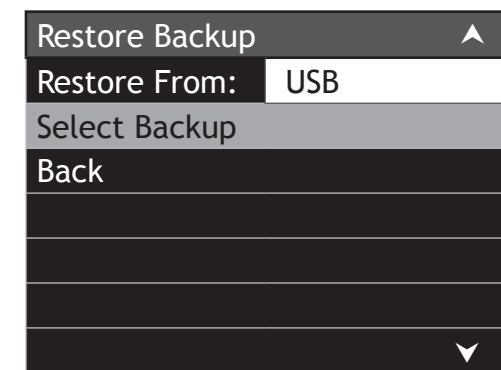

Figure 95
7. Change the “Restore Backup” option from “STORAGE” to “USB” by using the ► (Right) Push-button and Down▼ Push-button. Refer to figure 95.